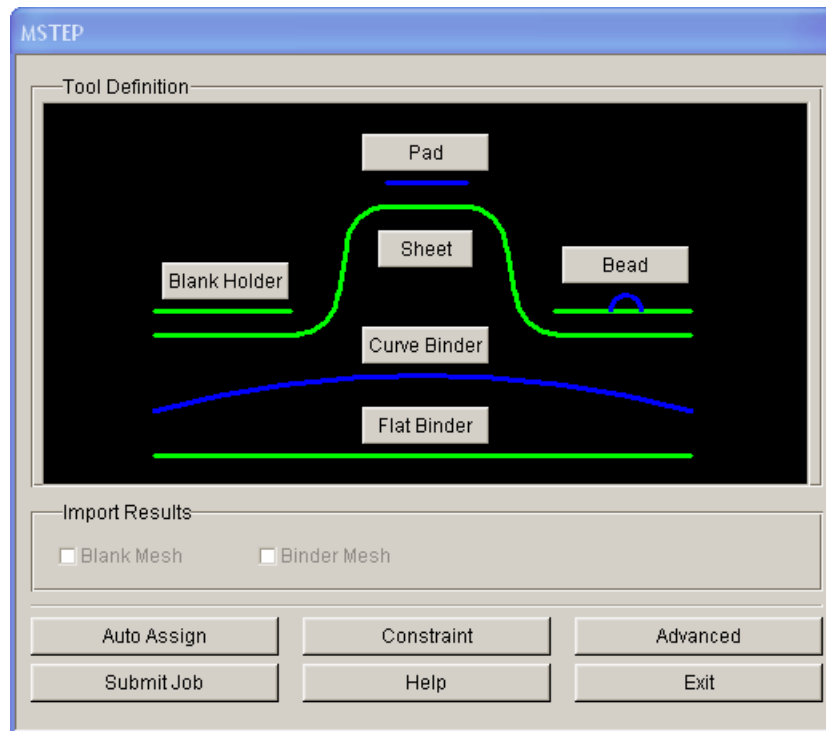

Figure 3.58: MSTEP of Bead definition
- 6) Click “OK” in the Define Drawbead dialogue window to return to the MSTEP dialogue window, user may find the outlines representing the draw beads change from red into green, which indicates the define of draw beads has been completed. See figure 3.58.